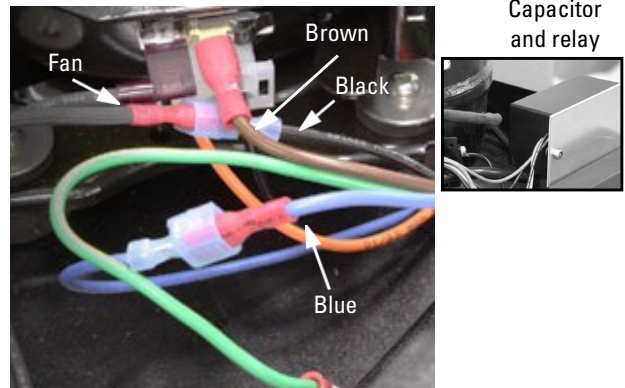

Figure 18: Disconnect compressor wires
7. Disconnect the three (3) compressor wires from the power supply cable (Figure 18).
15. Connect the compressor power wires (refer to Figure 18):